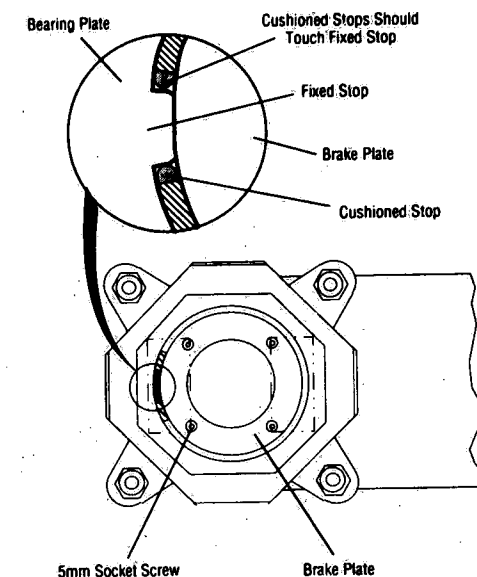

Figure 3-6. Internal Stops Located Below Brake Plate
Internal stops may be provided in two variations. Refer to Figures 3-6 and 3-10 for identification of the internal stops installed in your unit.
If internal stops are located below the brake plate (see Figure 3-6), adjust the stops using the following procedure.
4. Loosen, do not remove, four 5 mm socket screws on brake plate (see Figure 3-6).
5. Locate two cushioned stops and fixed stop under brake plate (see Figure 3-6). Each cushioned stop is attached to a stop ring and the fixed stop is part of the bearing plate.
6. Using a small screwdriver inserted between housing and brake plate, move each stop ring so that cushioned stop touches fixed stop (see Figure 3-6).